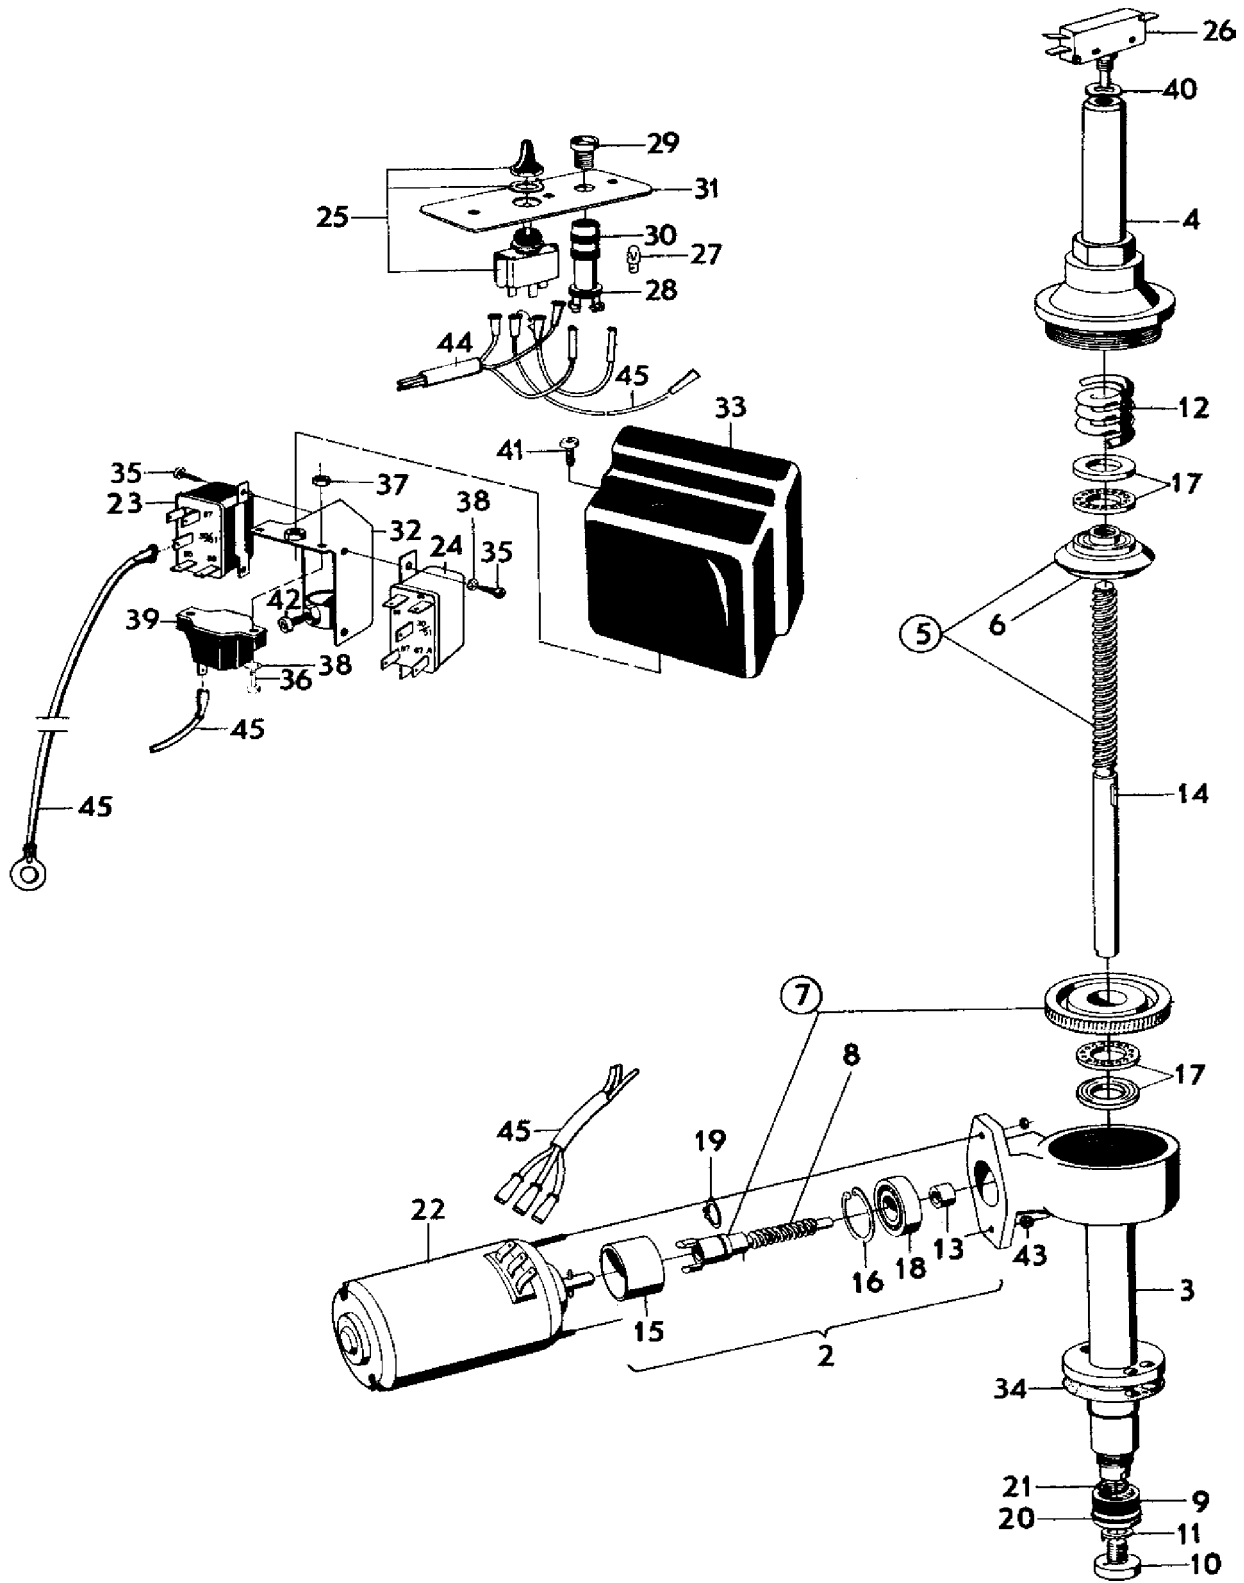

Fig. 55. Electro-mechanical lift unit
1. Remove the protective cover and take off the switch (26, Fig. 55) as well as the bracket with relays (23 and 24).
2. Slacken the nuts and remove the electric motor (22).
3. Knock up the lock washer (11) and unscrew the limiting screw (10) and the sealing nut (9).
4. Screw off the upper section (4) and lift out the worm rod (5), the spring (12), the bearings (17) and the worm gear (7).
5. Pull out the guide ring (15) and the worm (8) with the bearing (18).
If the drive does not straighten out, this means that the spring (12, Fig. 55) has poor tension. Place a washer (part No. 955901 ) under the spring. If the drive cannot be pressed down by hand (approx. 75 kg = 165 lb. at the fin), slacken the upper section (4) slightly. It is not necessary to lock the upper section since the spring thrust latches it.